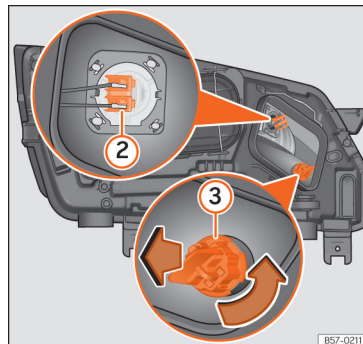

Fig. 111 In the engine compartment: main beam headlight bulb ② and turn signal bulb ③.
3. Slide connector » **Fig. 111** ② to the left or right and pull.
3. Turn the bulb holder »» Fig. 111 ③ anticlockwise and pull.